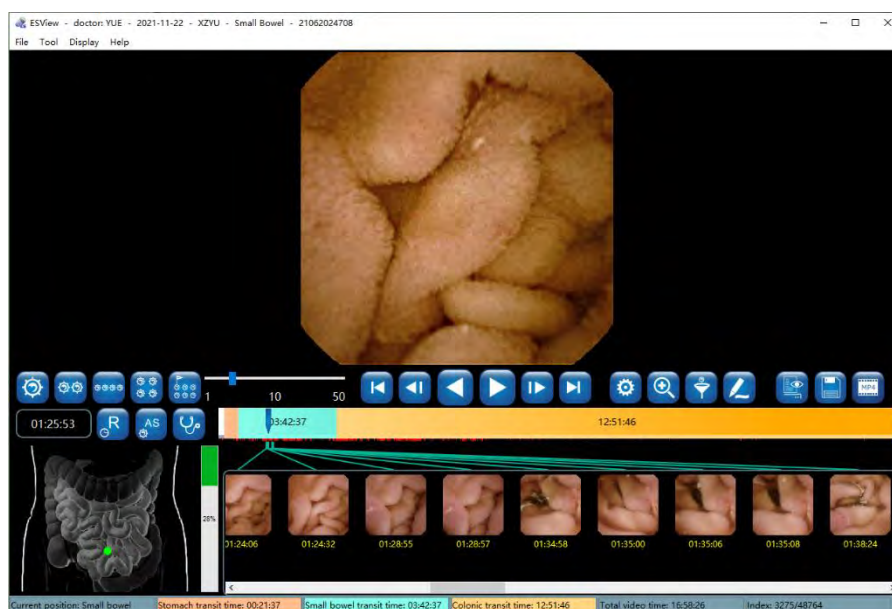

Figure 4-9: Main Software Interface After Opening Image Data
2. Select a patient folder and open the *.acpi file under the folder. The software will automatically load image data in this folder, and the image data will be displayed in the main software interface (Figure 4-9).